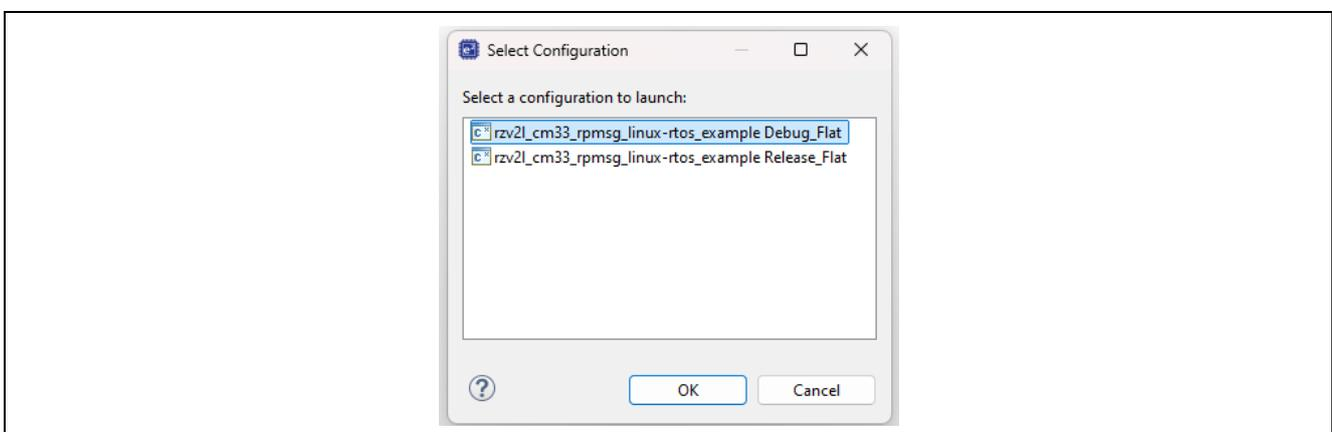

Figure 4-6. Debug Function Launch
2. Choose **rzv2l_cm33_rpmsg_linux-rtos_example Debug_Flat** or **rzv2l_cm33_rpmsg_linux-rtos_example Release_Flat** from the drop-down list indicated in Figure 4-6.